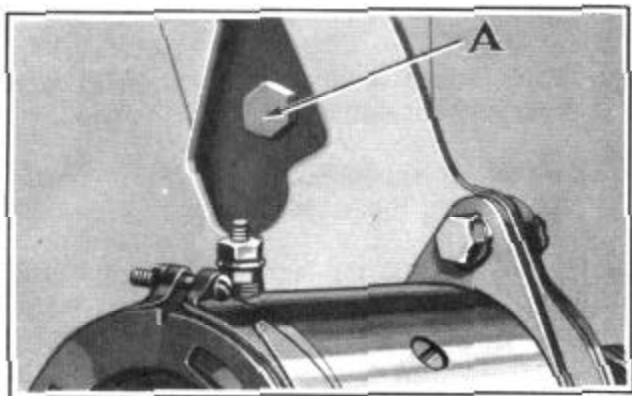

FIGURE 4
1. Remove plug (A), Figure 4, using socket wrench J-472.